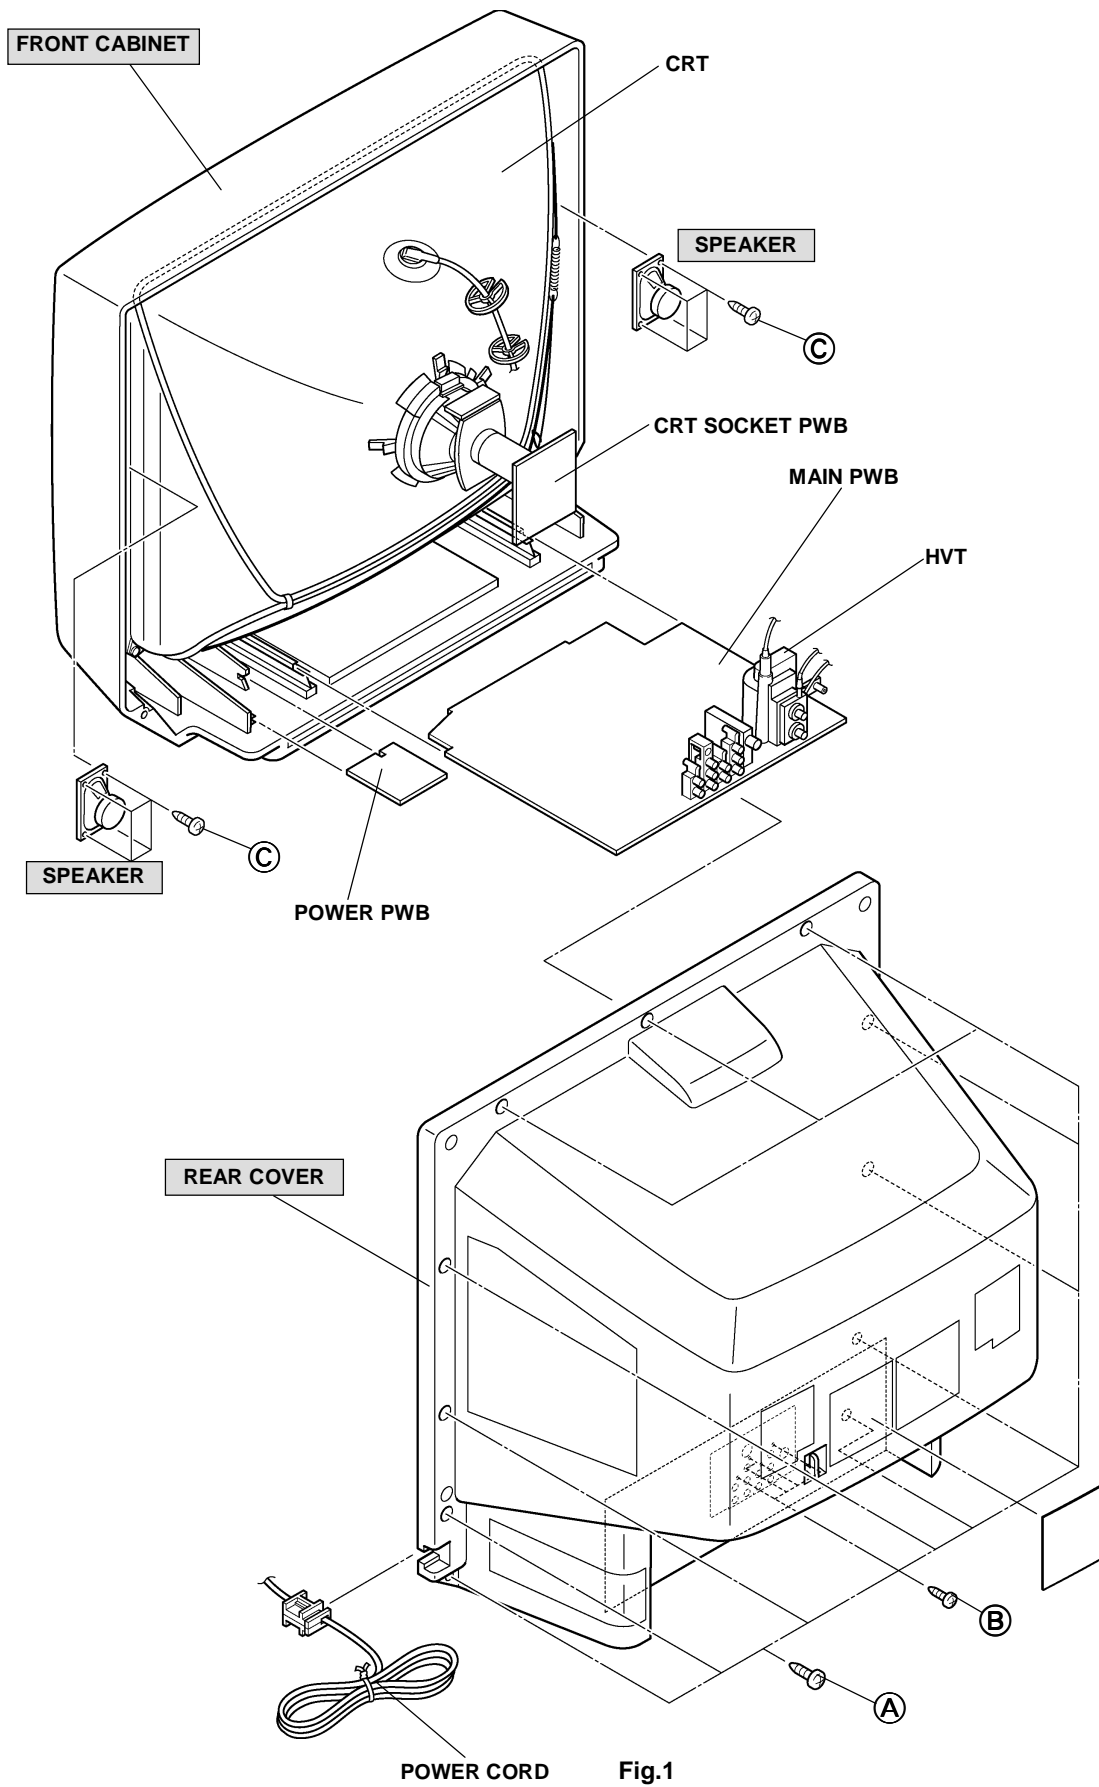

Fig.1
2. As shown in the Fig.1, remove the **11** screws marked **(A)** .
3. As shown in Fig.1, remove the **4** screws marked **(B)** .
1. As shown in Fig. 1, removing the **2** screws marked **(C)** , then remove the speaker.
<p>(4) System constant check and setting 1) Press SLEEP TIMER key and, while the indication of "SLEEP 0 MIN." is being displayed, press DISPLAY key and VIDEO STATUS key on the remote control unit simultaneously. 2) The SERVICE MENU screen of Fig.1 is displayed. 3) While the SERVICE MENU is displayed, again simultaneously press the DISPLAY and VIDEO STATUS keys to display the Fig.2 SYSTEM CONSTANT screen. 4) Refer to the SYSTEM CONSTANT table and check the setting items. Where these differ, select the setting item with the UP/DOWN (▲/▼) key and adjust the setting with the LEFT/RIGHT (◀/▶) keys. 5) After adjusting, release the LEFT/RIGHT(◀/▶) key to store the setting value. 6) Press the EXIT key twice to return the normal screen.</p>	 <p style="text-align: center;">Fig.1</p>
<p>(7) SERVICE MENU setting Verify what to set in the SERVICE MENU, and set whatever is necessary.(Fig.1) Refer to the SERVICE ADJUSTMENT for setting.</p>